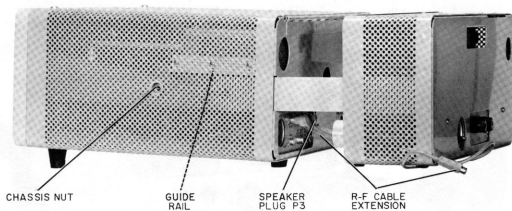

Figure 4. Phone Jack Connections to KWM-2 During Assembly of KWM-2 and PM-2
h. Pull the PM-2 and the KWM-2 apart far enough to make the necessary phono jack connections to the rear of the KWM-2 as shown in figure 4. Run the shielded cables downward through the cord channels in the mating face of the PM-2 and underneath the power supply. Power cables for the 399C-1 or 312B-5 may be run through the large holes in the front and back sides of the PM-2.